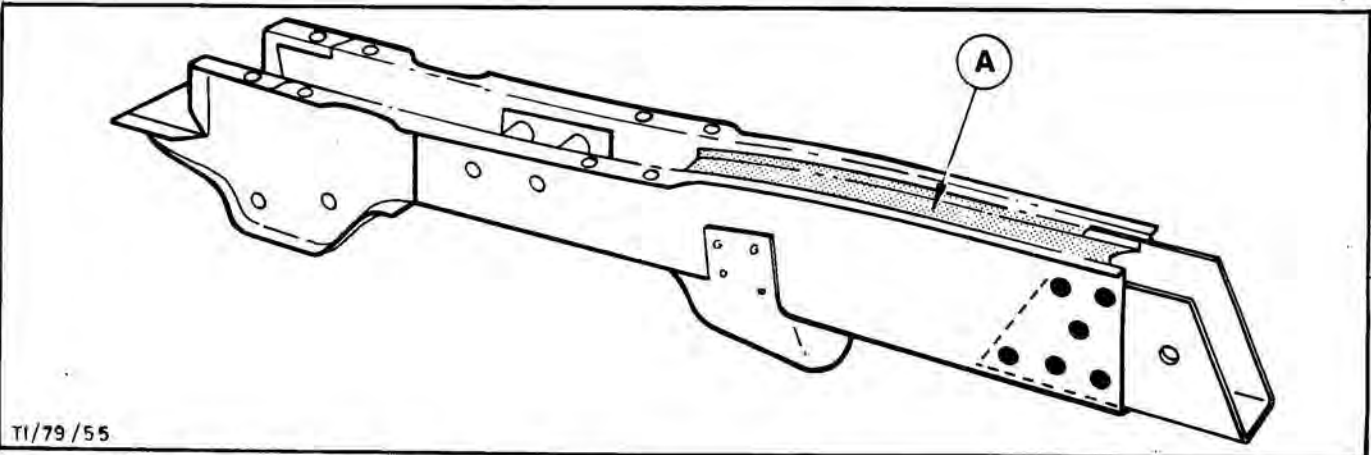

Fig.91. Shoe welded with side member section.
12. Insert internal shoe into new side member section and weld, Fig.91.